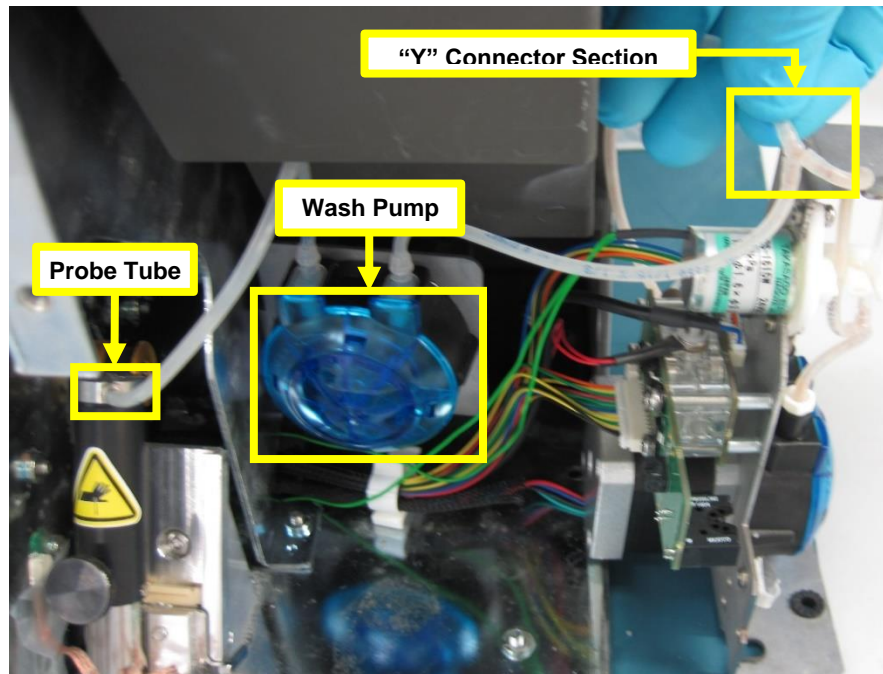

Figure 10
4. Disconnect the right side of wash pump tubing by removing it from the "Y" connector. Disconnect the tubing from the barb connector on the Probe Tube Figure 10